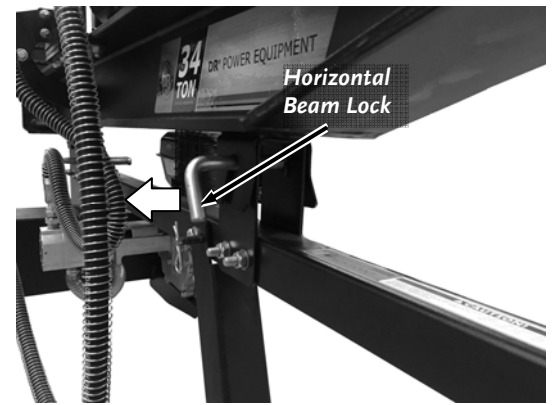
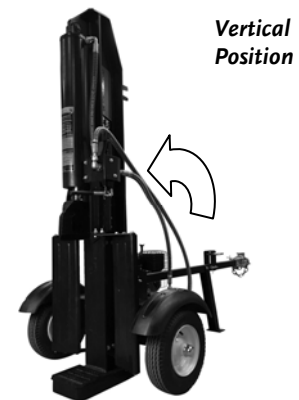

Figure 46
Figure 47
1. Pull out on the Horizontal Beam Lock (**Figure 46**) and lift up on the Beam to rotate it to the vertical position (**Figure 47**).